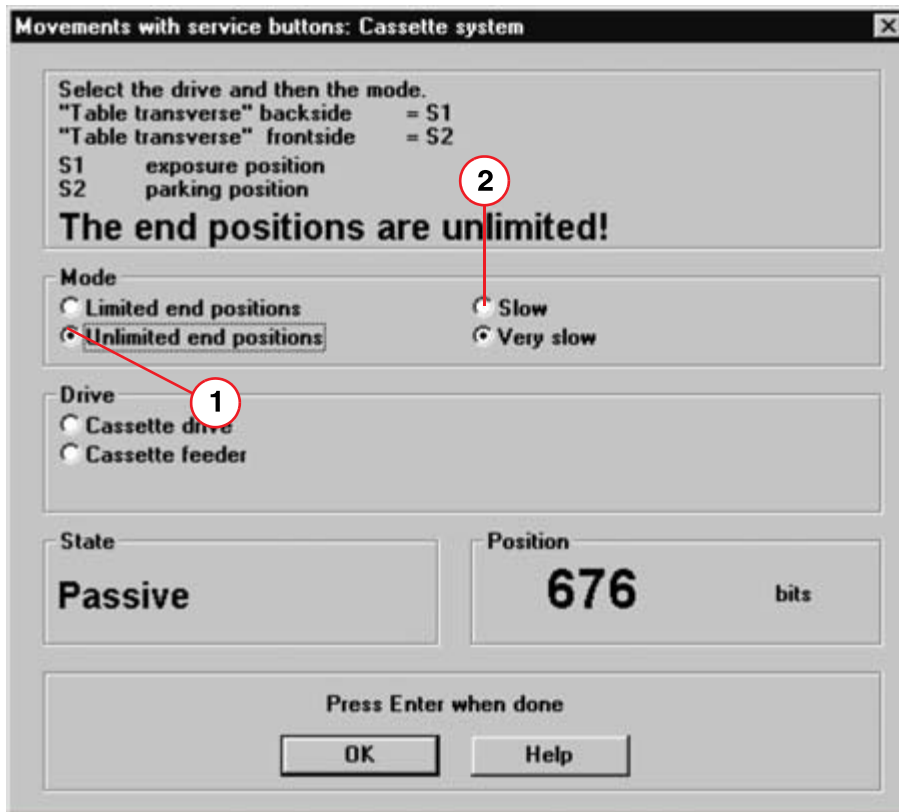

Fig. 105: Window "Movements with service button: Cassette system"
- Select **Execute** (The following window appears (Fig. 105 / p. 92)).
- Select **Unlimited end positions** and **very slow** (1/2/Fig. 105 / p. 92).